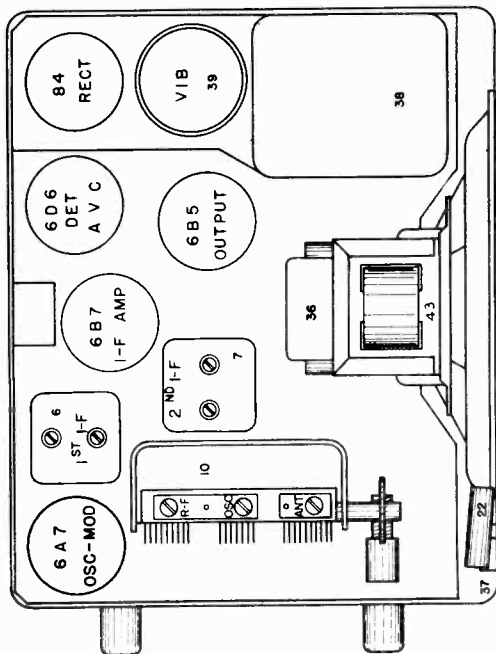

FIG. 3--PARTS LAYOUT--Top View
- (a) Feed a test oscillator signal of 262 K.C. into the control grid of the 6B7 tube (leave grid clip in place) through a .25 mfd. condenser and adjust the I-F trimmers on the 2nd I-F coil (illus. #7 on Fig. 3). Care should be taken to keep the test oscillator leads well away from the grid leads of other tubes in the receiver to avoid inaccurate adjustments.
- (b) Remove the test oscillator lead from the grid of the 6B7 tube and connect it to the grid of the 6A7 tube (leaving grid clip in place) and adjust the trimmers on the 1st I-F coil (illus. #5 Fig. 3) carefully for maximum output.